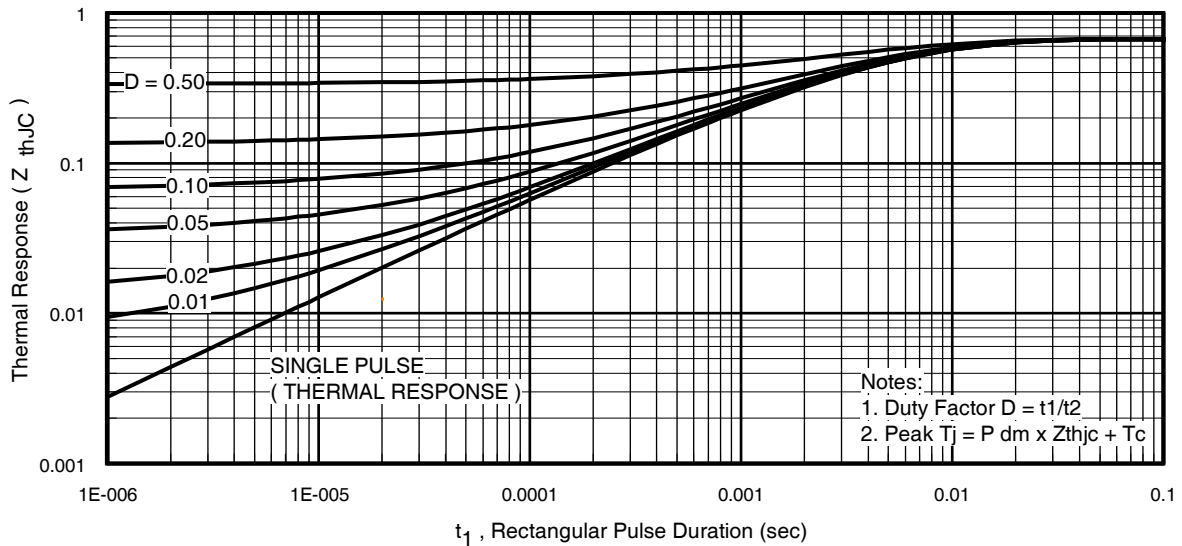

Fig 11. Maximum Effective Transient Thermal Impedance, Junction-to-Case
- ① Repetitive rating; pulse width limited by max. junction temperature. (See fig. 11).
- ② Limited by T_{Jmax} , starting $T_J = 25^\circ\text{C}$, $L = 0.11\text{mH}$, $R_G = 25\ \Omega$, $I_{AS} = 75A$, $V_{GS} = 10V$. Part not recommended for use above this value.
- ③ Pulse width $\leq 1.0\text{ms}$; duty cycle $\leq 2\%$.
- ④ $C_{oss\ eff.}$ is a fixed capacitance that gives the same charging time as C_{oss} while V_{DS} is rising from 0 to 80% V_{DSS} .
$Z_{thJC}(D, t_{av})$ = Transient thermal resistance, see figure 11)